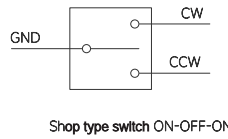

Figure3
- For an external switch start-stop/reversing situation, see EH200A - Figure 3.
- When it is necessary to switch the direction through the PLC, just connect CW, CCW, COM directly to the output terminal of the PLC, and the motor can be started/stopped and the running direction can be switched without external relays. Refer to EH200A—Figure 3.
- Disconnect CW/CCW with GND (A switch CD1 250V6A is recommended)---Figure3.
- For the start-stop/reversing scene that requires an external switch, please refer to EH200A---Figure 3.
- When it is necessary to switch the direction through the PLC or other host computer, just connect CW, CCW, COM directly to the output terminal of the PLC or other host computer, and the motor can be started/stopped and the running direction can be switched without external relays. Refer to EH200A Figure 3.